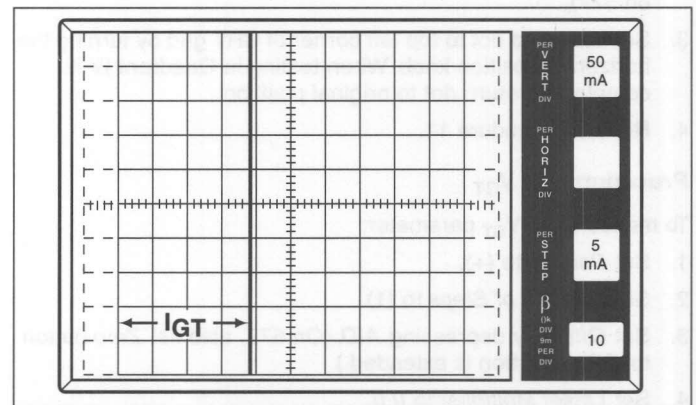

Figure 19.12 I_{GT} in QI is 18.8mA
3. Gradually increase *Offset Multiplier* until device reaches conduction point. (See Figure 19.12.) Measure I_{GT} by following horizontal axis to the point where the vertical line passes through the axis. This measured value will be I_{GT} .